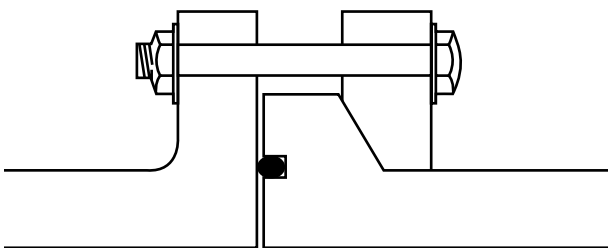

Figure 3-15 Loose ring flange with O-ring gasket
- 1 an “O”-ring seal (groove required in flange face, see **Figure 3-15**) and